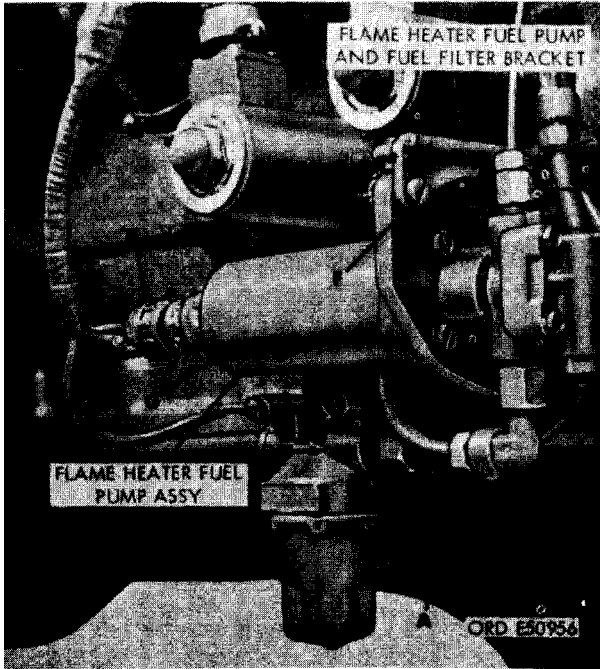

FIGURE 78. REMOVING OR INSTALLING FLAME HEATER FUEL PUMP ASSEMBLY.
- (1) Figure 78. (A) Disconnect flame heater fuel inlet solenoid valve-to-flame heat fuel pump, tube from 1/4 tube x 1/8 pipe, 90 degree elbow. (B) Remove 1/8 pipe adapter and 1/4 tube x 1/8 pipe, 90 degree elbow from flame heater fuel pump. (C) Disconnect flame heater fuel pump-to-flame heater nozzle tube from adapter in fuel pump. (D) Remove 1/8 tube x 1/8 pipe union from fuel pump. (E) Disconnect flame heater harness from receptacle connector at rear of pump. (F) Remove two No. 10 plain nuts, No. 10 lock washers, and No. 10 x 7/8 ma-
- b. **Installation.** Refer to figure 78 and reverse the sequence of instructions to install the flame heater pump assembly.